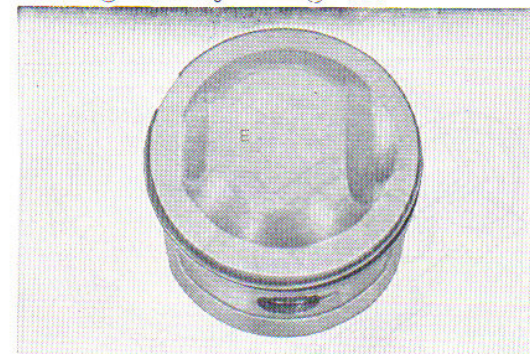

Fig. 3.69 "E" mark on the piston head
- c. The piston must be assembled so that the "E" stamped on the piston head is toward the top when the engine is in the normal attitude. (Fig. 3.69)